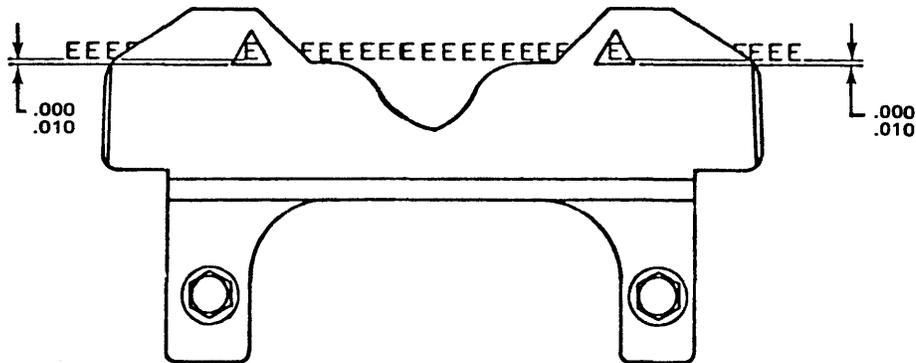

Figure 5-24 CARD GUIDE ALIGNMENT
Refer to Figure 5-24. Check the alignment of the card guide. As shown, the bottom lines of the printed E's must be even with the bottom edges of the triangular openings (A1) in the card guide (A) within .000" to .010" as shown. Make minor adjustments to the card guide height as required to achieve proper card guide positioning. See NOTE in subsection 5.4.4.3 step 2.